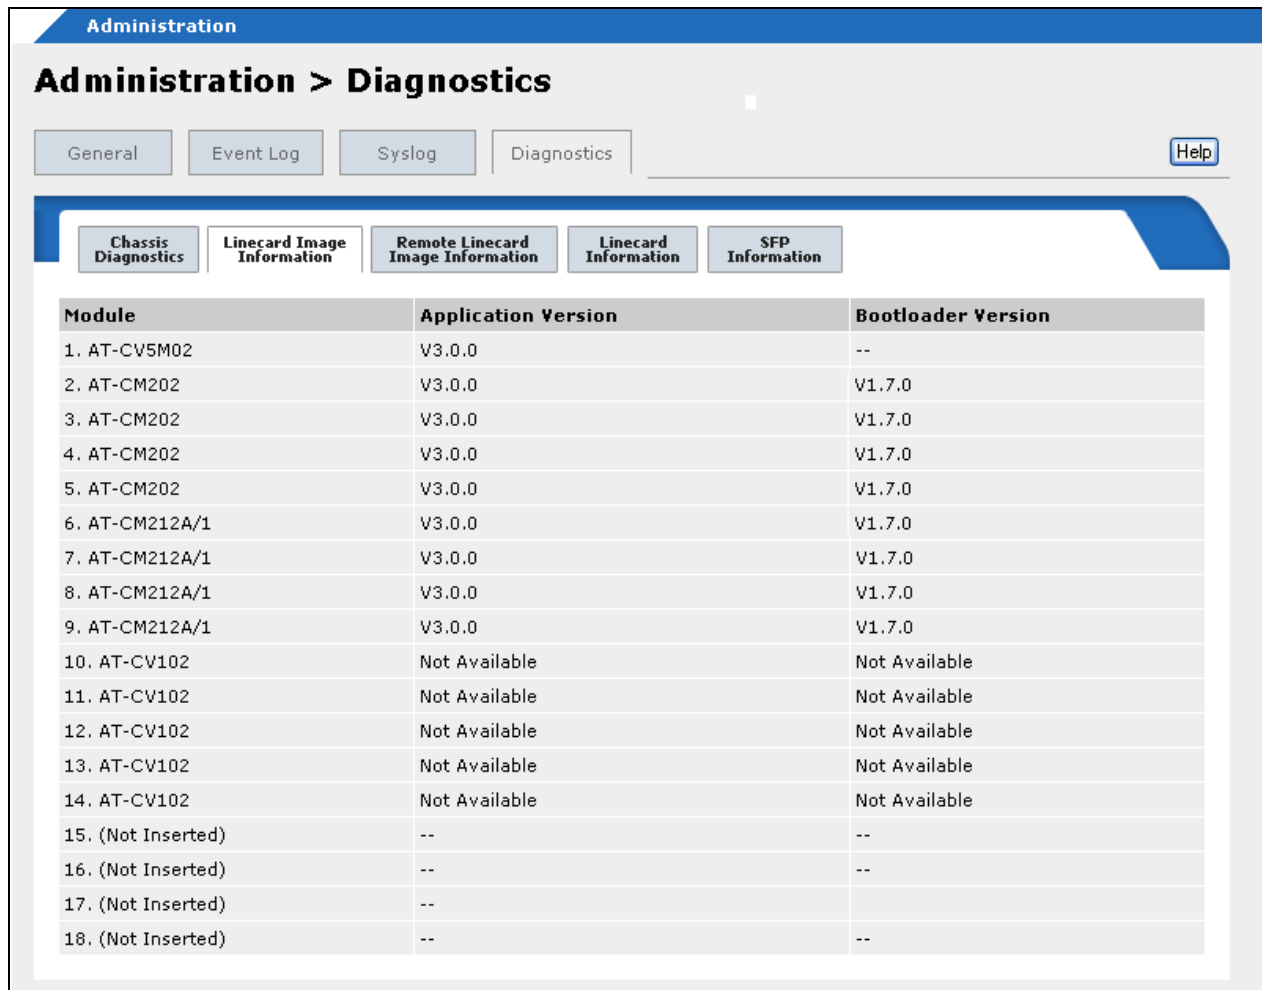

Figure 70. Linecard Image Information Tab
3. Select the **Linecard Image Information** tab, shown in Figure 70. The columns in the window are described in Table 18 on page 165.